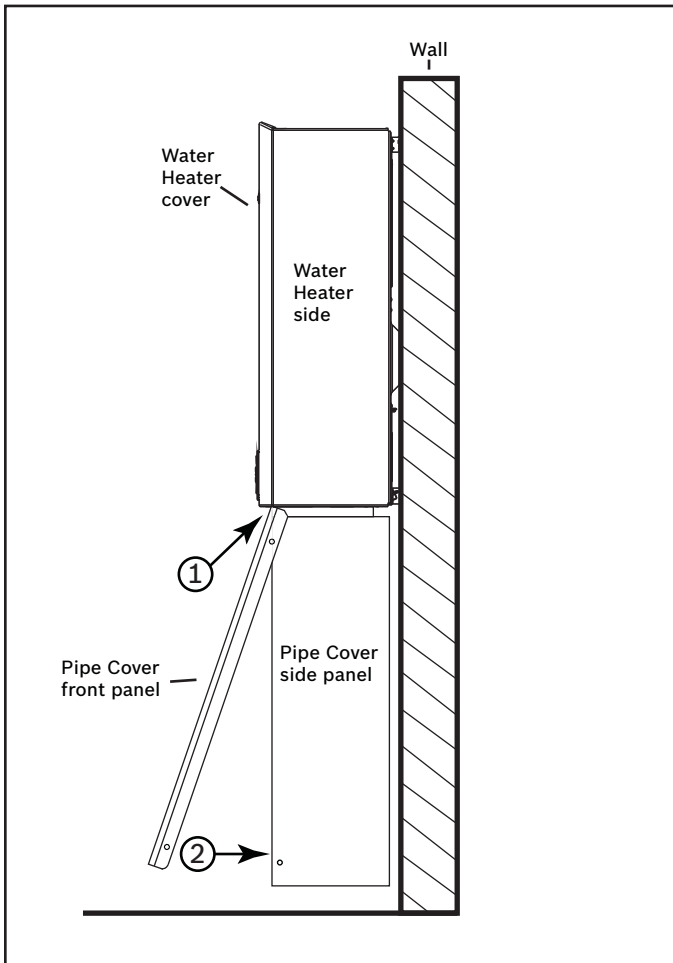

Fig. 8 Front panel installation
12. The upper radius of the front panel must be fitted behind the water heater's cover for proper installation (Fig. 8, pos.1). If necessary adjust the side panels to allow the front cover to fit properly. Once top of front panel is fitted behind the water heater's cover, swing bottom of front panel inwards (Fig.8, pos. 2). Ensure that the 4 screw holes line up with the threaded inserts on the side panels. Secure using four machine screws.